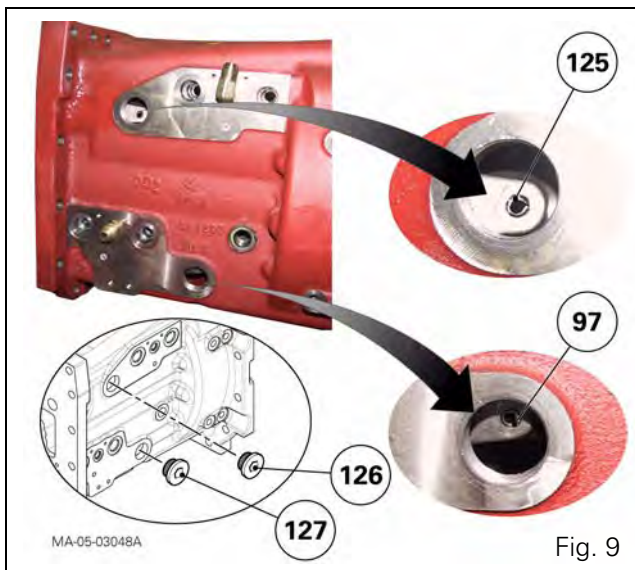

Fig. 9
8. Remove the two plugs (126) and (127) (Fig. 9).
9. Drive out the two pins (97) and (125) holding the forks on the selector rails (Fig. 9).